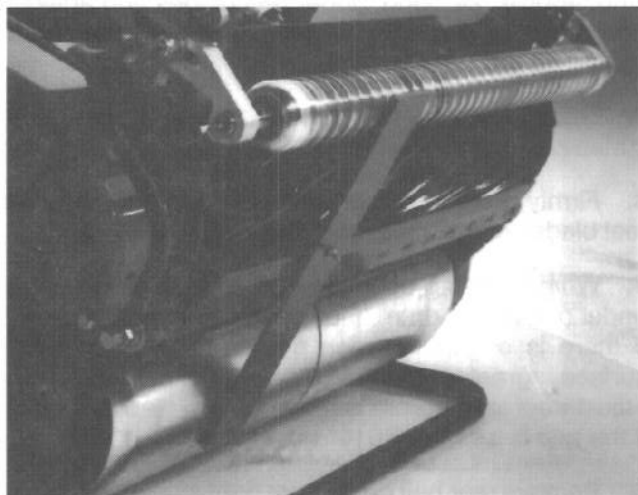

Figure 11
4. Hook screw head on cutting edge of bedknife and rest rear end of bar on rear roller (Fig. 11).